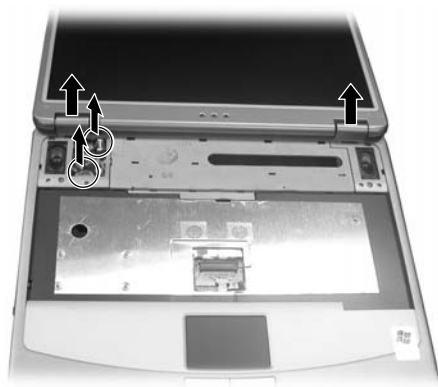

Figure 2-17 Remove two hinge covers and disconnect two cables
5. Open the top cover to level plane. Then remove the two hinge covers. And disconnect the two LCD cables from the system board. (Figure 2-17)